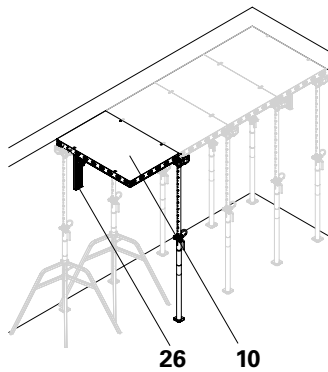

Fig. D2.08
4. Secure every third DP panel with the DUO 82 wall holder (26)! (Fig. D2.08)
- The slab formwork is set up row by row in the transverse direction (Fig. D2.08)